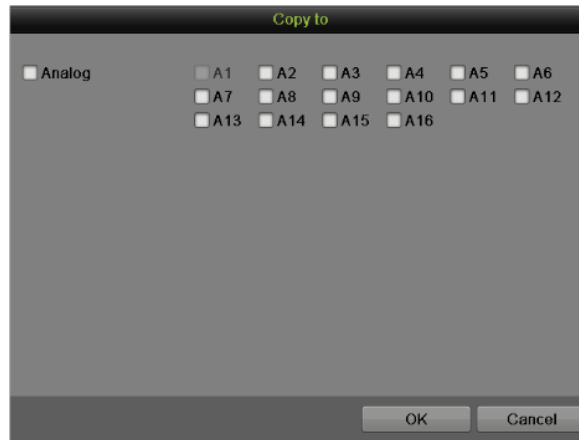

Figure 44 Copy to
6. Repeat the above steps to set record schedule for other channels. If the same schedule can be applied to other channels, click the Copy button to pop-up a Copy to box, as shown in Figure 44.